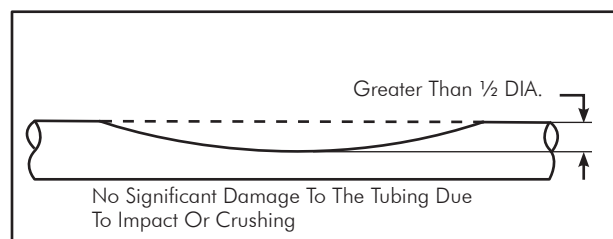

FIG. 5-3 Repair Is Necessary
- The tubing has been significantly damaged (**FIG. 5-3**).